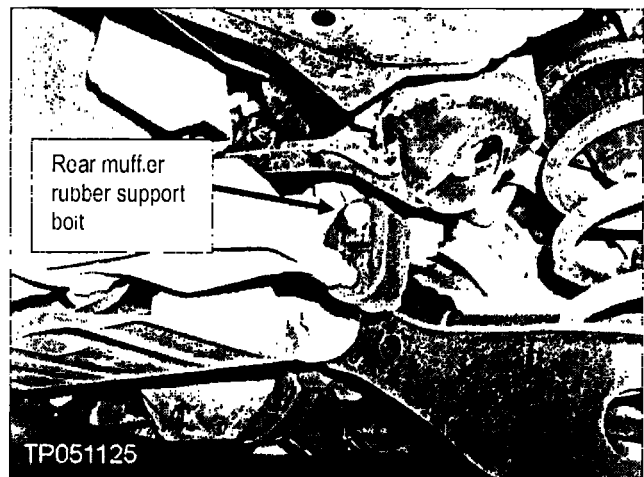

Figure 10
14. Remove the rear muffler rubber support bolt (see Figure 10).